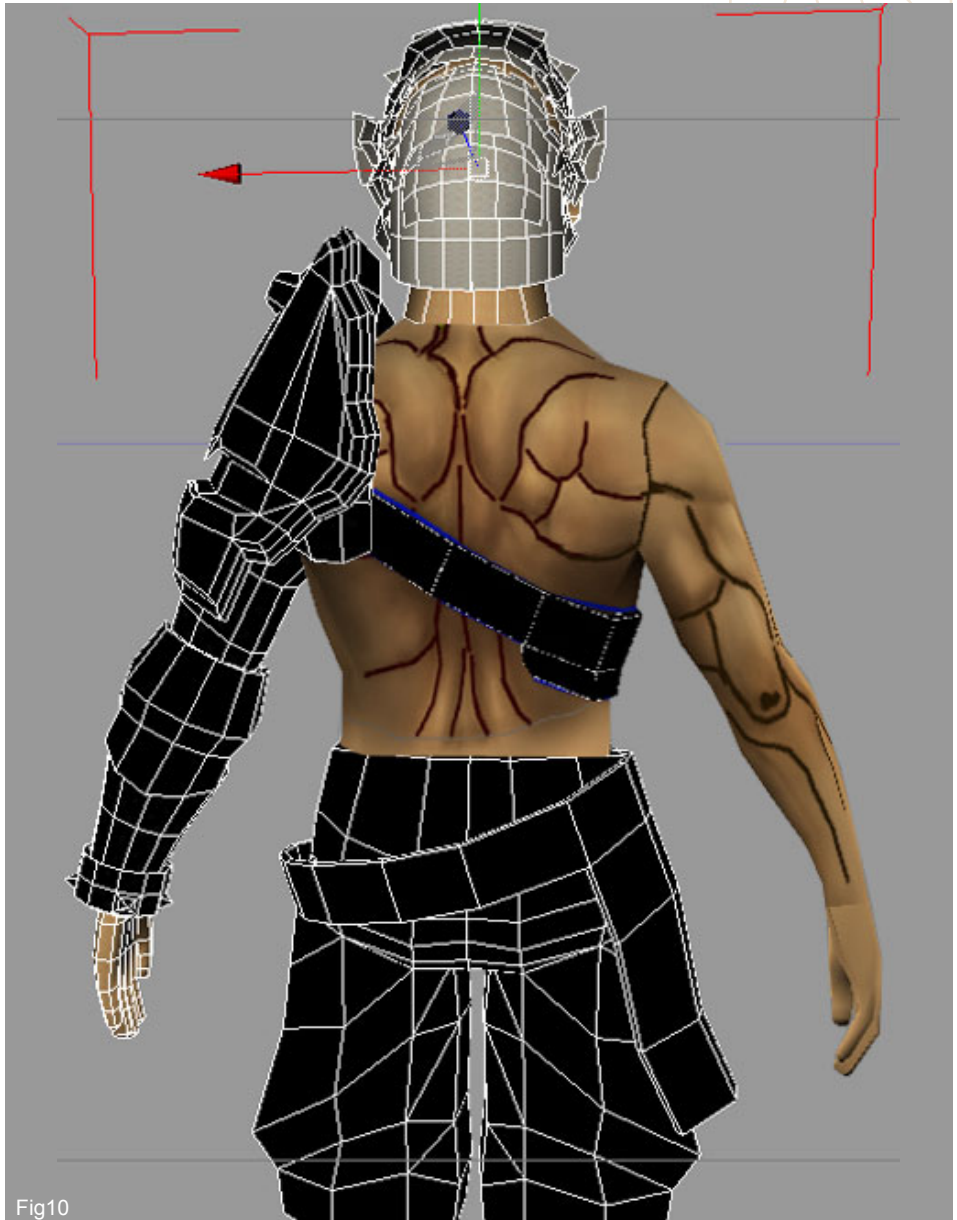

Fig10
10. With regard to the arm and back section of the model, I suggest you always start on the guidelines layer and draw in the shapes of the muscle groups and then save out an image to test the accuracy on your actual mesh before embarking on any significant detail and shading. This is essentially trial and error and will mean many changes and test renders before you are confident in painting in the main shadows and highlights that will define the form (Fig.10).